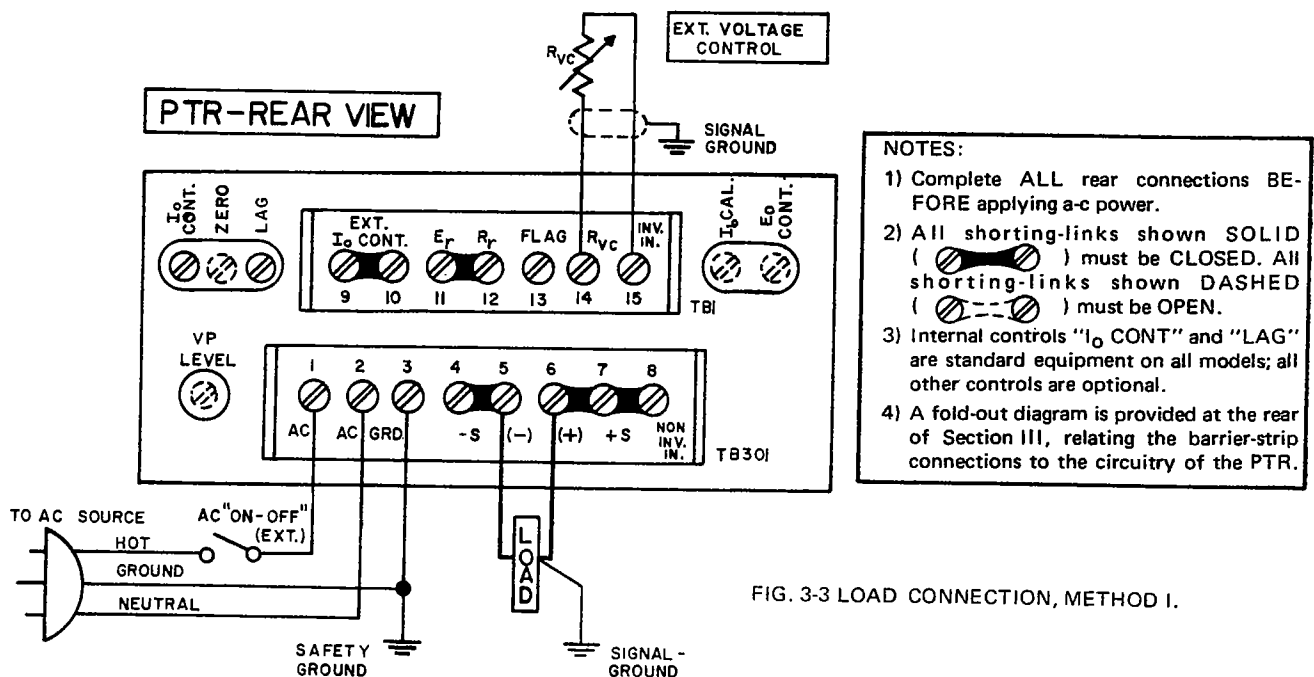

FIG. 3-3 LOAD CONNECTION, METHOD I.
3-20 (Refer to FIG. 3-3.) The simplest power supply interconnection to primarily resistive, relatively constant loads, located close to the power supply, consists of a 2-wire connection from the output terminals [terminals (5) and (6)]. Load wire is selected as described previously (refer to par. 3-15). The load leads should be tightly twisted to reduce "pick-up" from stray magnetic fields. After the grounding rules have been applied (refer to par. 3-3 to 3-11), and the voltage control resistor has been selected (refer to par. 3-27), the power supply can be connected to the a-c source and operation may commence. This load connection is recommended only for applications where the voltage drop in the resistance of the load wires is of minor consequence, as for example for noncritical loads, operating in the Voltage Mode, or for Current Mode operation.